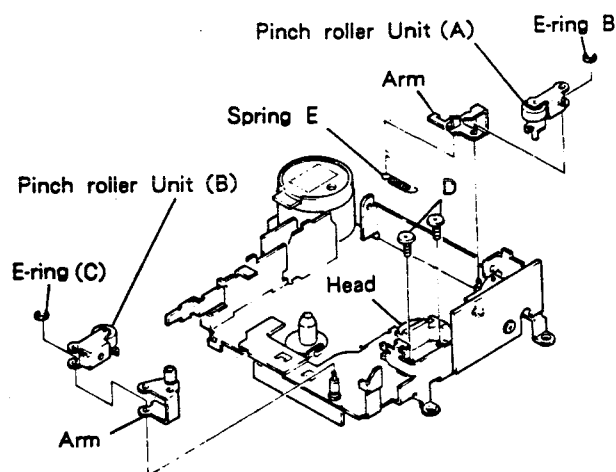

Fig. 7
10. Remove spring E. (Fig.7)
11. Remove E-ring B. The pinch roller unit (A) can be removed. (Fig.7)
12. Remove E-ring C. The pinch roller unit (B) can be removed. (Fig.7)
13. Remove two screws D. The head can be removed. (Fig.7)